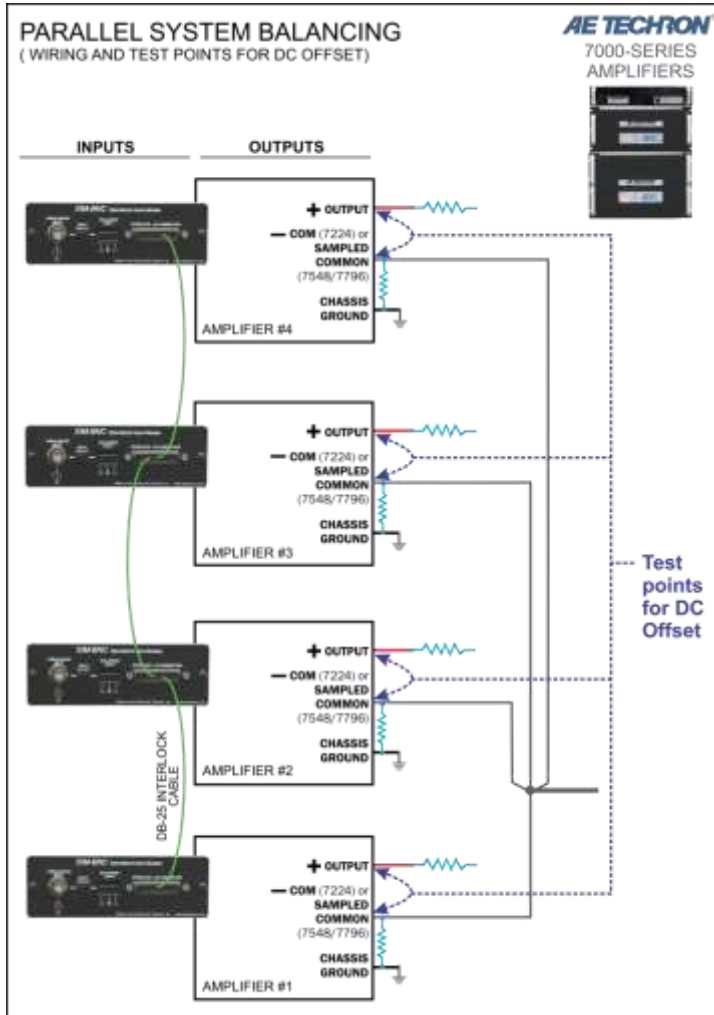

Figure 4.11 – Wiring and Test Points for DC Offset
5. Using a digital voltmeter set to DC, measure across the amplifier's back-panel output connector terminals (OUTPUT to COM or SAMPLED COMMON) to verify that the DC offset of each amplifier is less than 5 mVdc. See **Figure 4.11**.